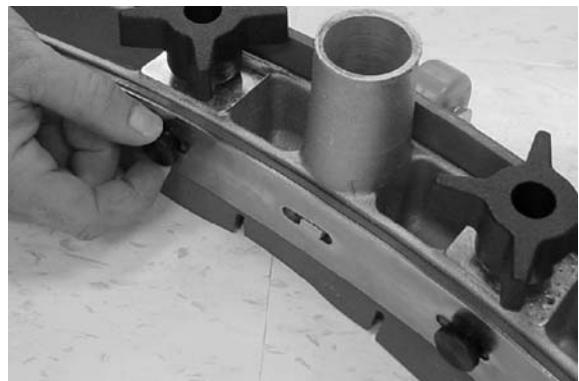

FIG. 39
2. Remove the six thumbscrews holding the retainer and squeegee blade to the squeegee frame. Rotate the squeegee blade end for end to allow a new edge to face the front of the machine. Make sure the notched edge of the blade is facing downward (Figure 39).